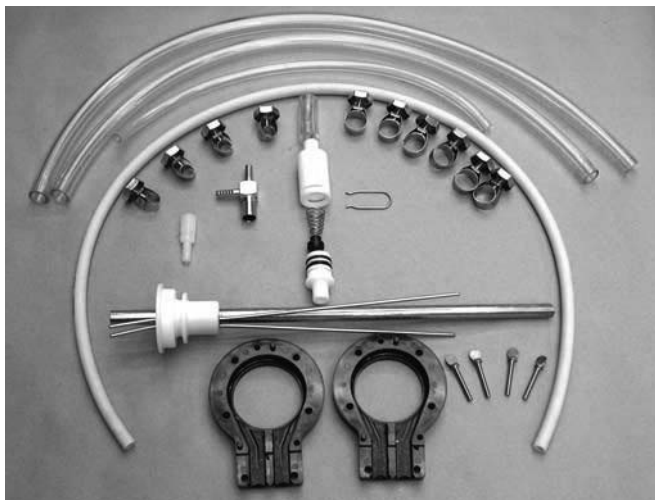

Figure 23. Removable Parts
3. Completely disassemble both hose assemblies and check valve. Place hoses, tee, check valve assembly, and pickup hose adapter in 90° to 110°F (32°C to 43°C), mild detergent water and wash thoroughly. Use soft bristle brushes to clean inside of fittings. Rinse all parts in clean 90° to 110°F (32°C to 43°C) water (see Figure 23).